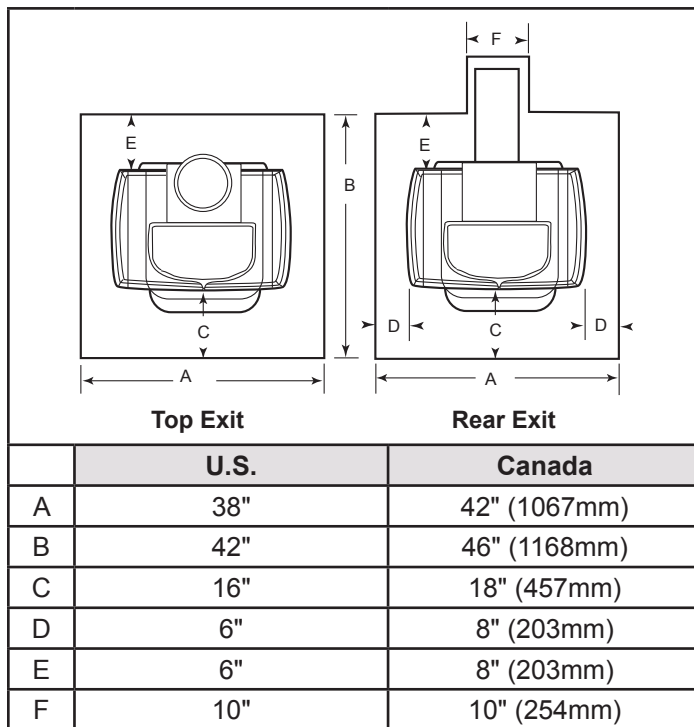

Figure 11 - Required floor protector dimensions.
U.S. installations the floor protector is required under the stove and must extend at least 16" from the front of the stove ("C", Figure 11), and at least 6" from the sides and rear ("D" and "E", Figure 11). It must also extend under the chimney connector and 2" to either side ("F", Figure 11).
In Canada, a noncombustible floor protector is required under the heater also. The floor protector must extend 18" (457 mm) to the front ("C", Figure 11), and 8" (203 mm) from the sides and rear ("D" and "E", Figure 11).